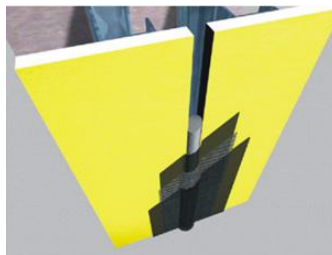

Figure 14
- c. Using a brush or 3/4 in (19 mm) nap roller, apply a liberal coat of AquaFlash Liquid material to the backer rod and adjacent substrate surface to the width of the AquaFlash Mesh - Figure 14.